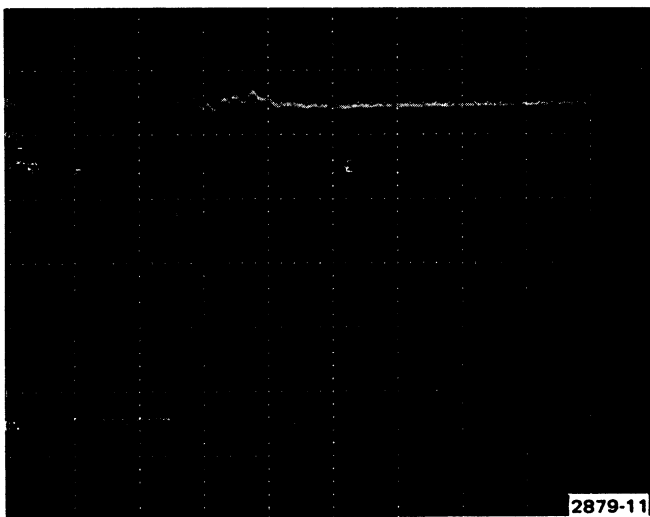

Fig. 9. Typical pulse response of the 1-meter cable length P6106 when adjusted for 250-MHz bandwidth with the 475A.
q. CHECK—high-frequency aberrations. Typically, aberrations will not exceed +3%, -3%, or 5% peak-to-peak (this is in addition to test oscilloscope aberrations, as noted in part f). Figures 9 and 10 show typical pulse response of the 1-meter and 2-meter probes, respectively, when adjusted to make 250 MHz bandwidth on the 475A.